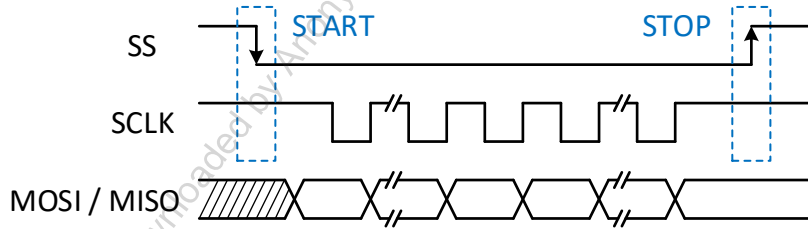

Figure 27. MODE2 timing
- Figure 27 illustrates MODE2. In MODE2, the clock idle state is high, and the first data bit of a transfer is captured (by either the host or target) on the first clock transition of the transfer.